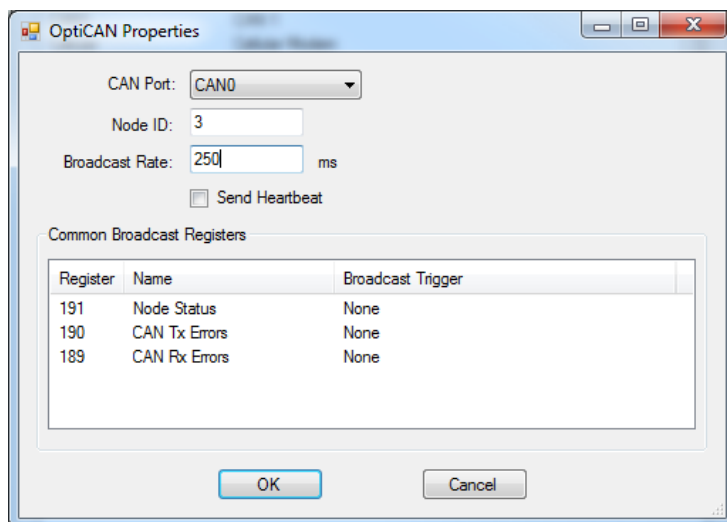

Figure 2-53 - OptiCAN Properties
4. Click / select **Cellular** (highlight). Refer to Figure 2-53. Click **OK**. The **Cellular Properties** window will open identifying UART1 as the interface for the Cellular Modem. Click **OK**.